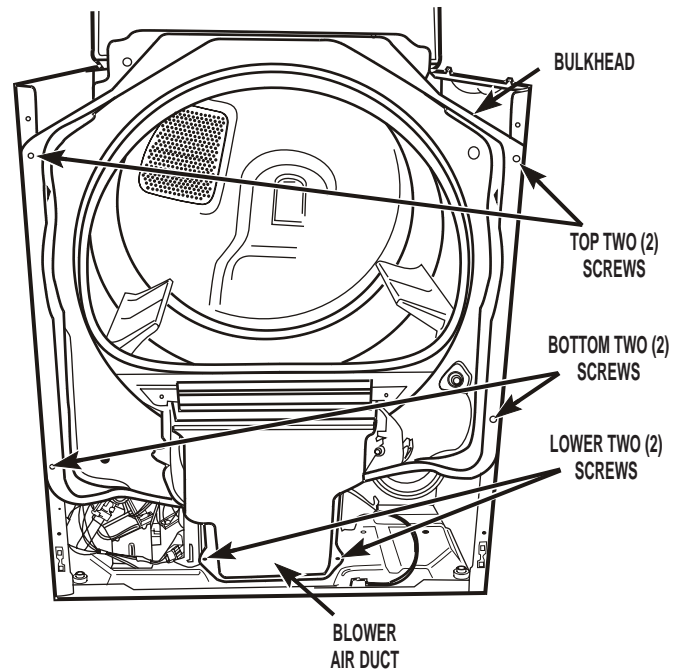

FIGURE 5
10. Loosen the top two (2) hex-head screws and remove the bottom two (2) hex-head screws from the front bulkhead. Remove the lower two (2) screws from the blower air duct. Gently remove the bulkhead and blower air duct from the front of the dryer. See *Figure 5*.